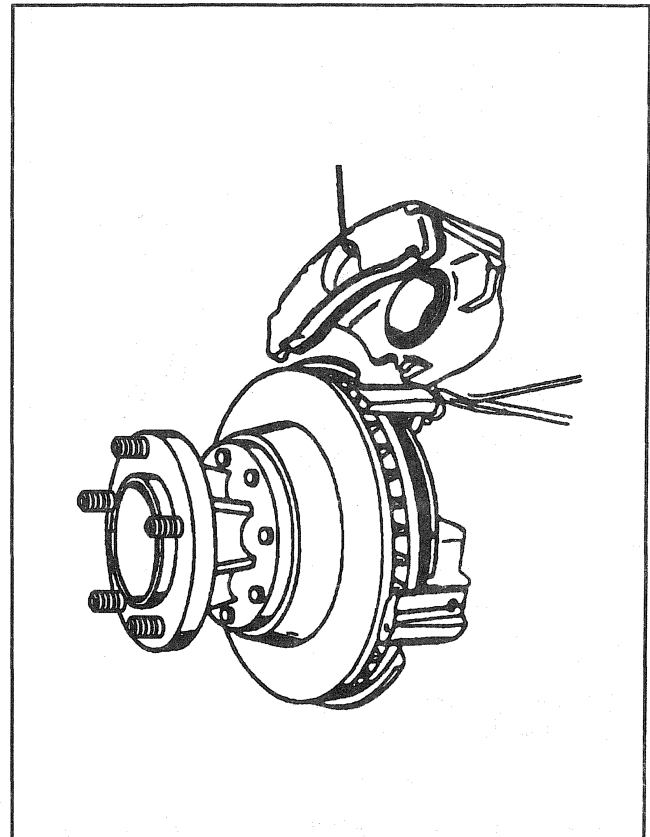

Figure 19—Suspending the Caliper
- Suspend the caliper (Figure 19).